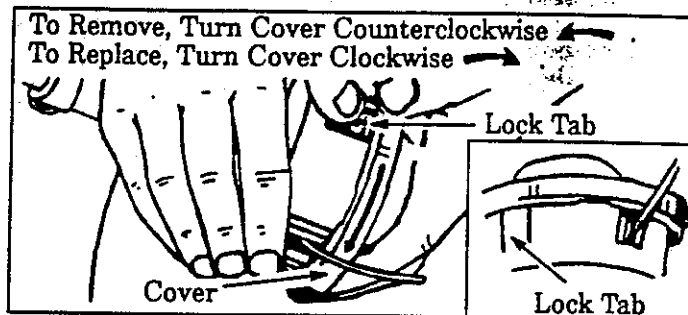

Figure 16
- a. Hold the Trimmer Head as shown in Figure 16. Press the Lock Tab and turn Cover counterclockwise.
- b. Remove the Cover and Spool. Figure 16.
- e. Insert about 6 inches of Line from the inside of the Hub through the Line Exit Hole to the outside to keep the Line from backing into the Head. Figure 16.
- Turn Cover clockwise. Figure 16.